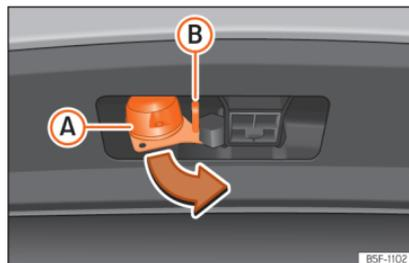

Fig. 259 Turning the 13-pin connector
- Grip the connector in area **(A)** and remove it in the direction of the arrow » **Fig. 259**.
- Open the cover of connector **(A)** and connect the trailer » **Fig. 259**.
- Hook the trailer retention cable into the safety eyelet » **Fig. 259 (B)**. When hooked, the retaining cable must **curve** in all trailer positions in front of the vehicle (sharp curves, reverse, etc.).